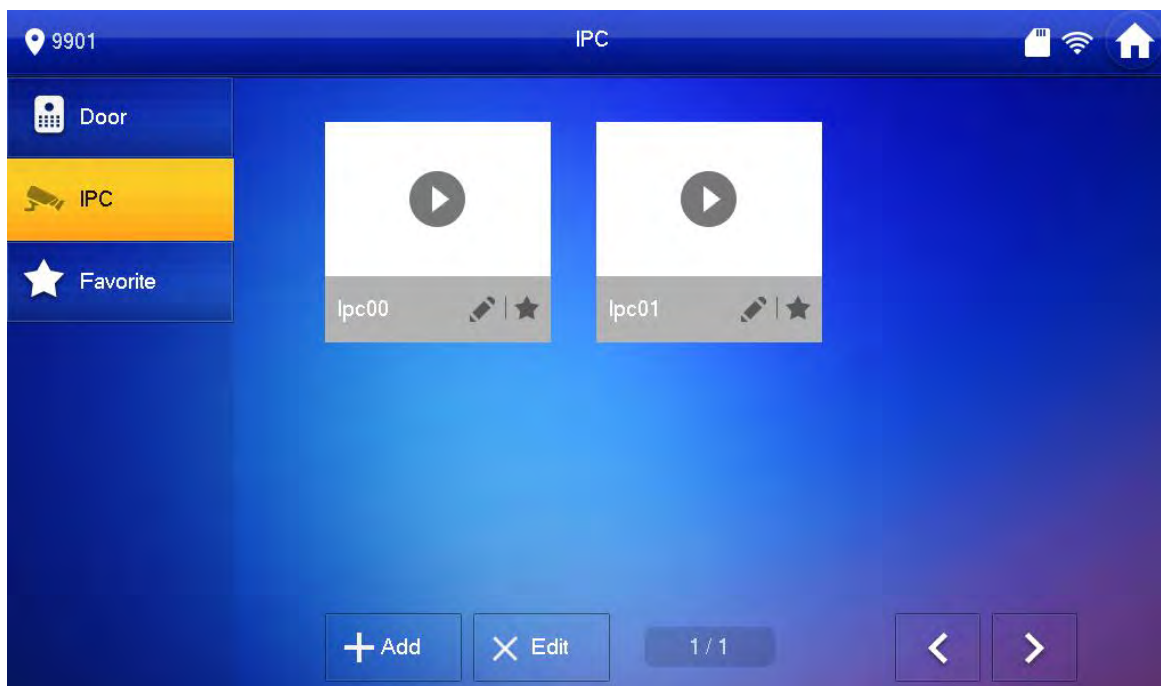

Figure 5-18
Step 4. Press OK to add camera. See Figure 5-18.